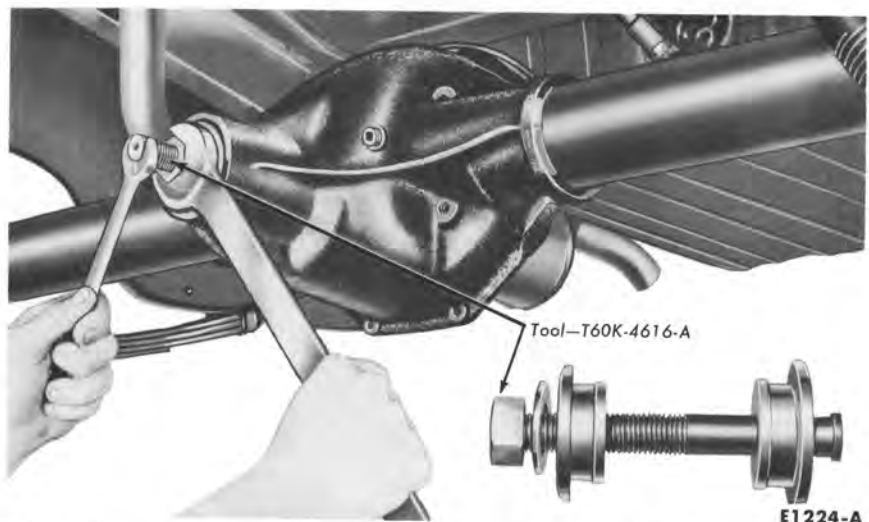

FIG. 11—Pinion Rear Bearing Cone Removal and Installation
9. If the pinion bearings cups are to be replaced, drive them out of the carrier casting with a drift. Install the new cups with the tool shown in Fig. 11. Make sure the cups are properly seated in their bores. If a 0.0015 inch feeler gauge can be inserted between a cup and the bottom of its bore at any point around the cup, the cup is not properly seated.